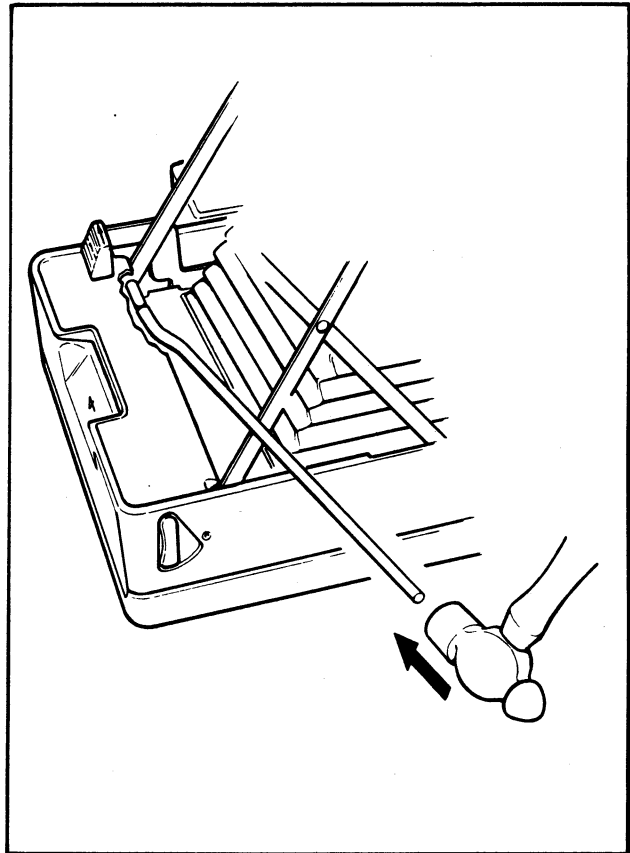

FIG. 5.24 DRIVING OUT THE BUSHING
5. As shown in Figure 5-24, position special tool # 11410 against the bottom of the bushing and carefully tap the bushing out of the camera body. On metal body cameras, separate the bezel from the bushing and save it for reuse.